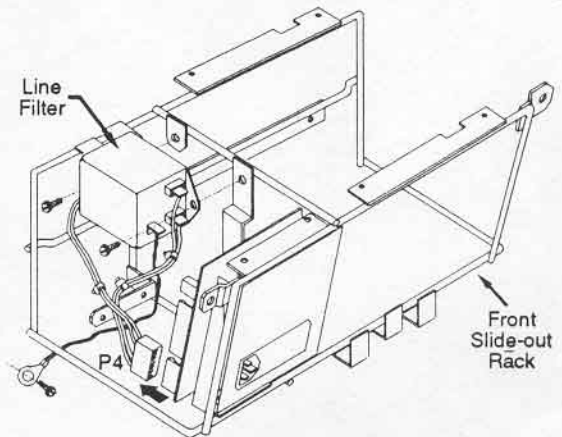

Figure 5-15. Line Filter Removal
- c) Unplug filter harness connector from the Power Entry Module as shown in Figure 5-15.